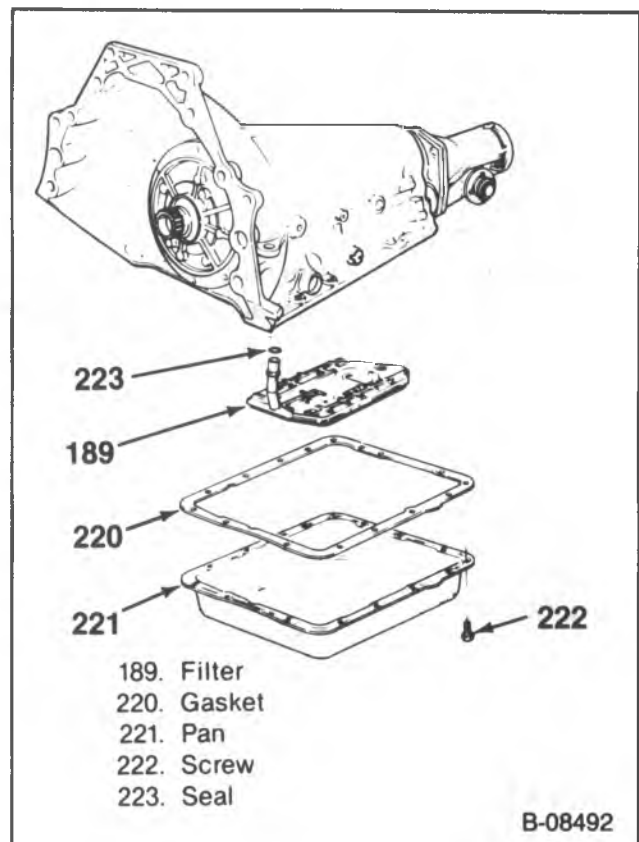

Figure 73 — Transmission Filter and Pan
**Remove or Disconnect (Figure 73)**
1. Oil pan screws (222) from the front and sides only.
2. Lightly tap the oil pan (221) with a rubber mallet or pry down to allow the fluid to drain.
3. Remaining oil pan screws (222), oil pan and the gasket (220).
4. Oil filter (189) and the seal (223).
**Install or Connect (Figure 73)**
- Coat a new seal (223) with a small amount of petrolatum.
1. New seal (223) onto a new filter (189).
2. New filter (189) into the case.
3. Oil pan (221) and a new gasket (220).
4. Screws (222).
- Screws (222) to 20 N·m (15 ft. lbs.).